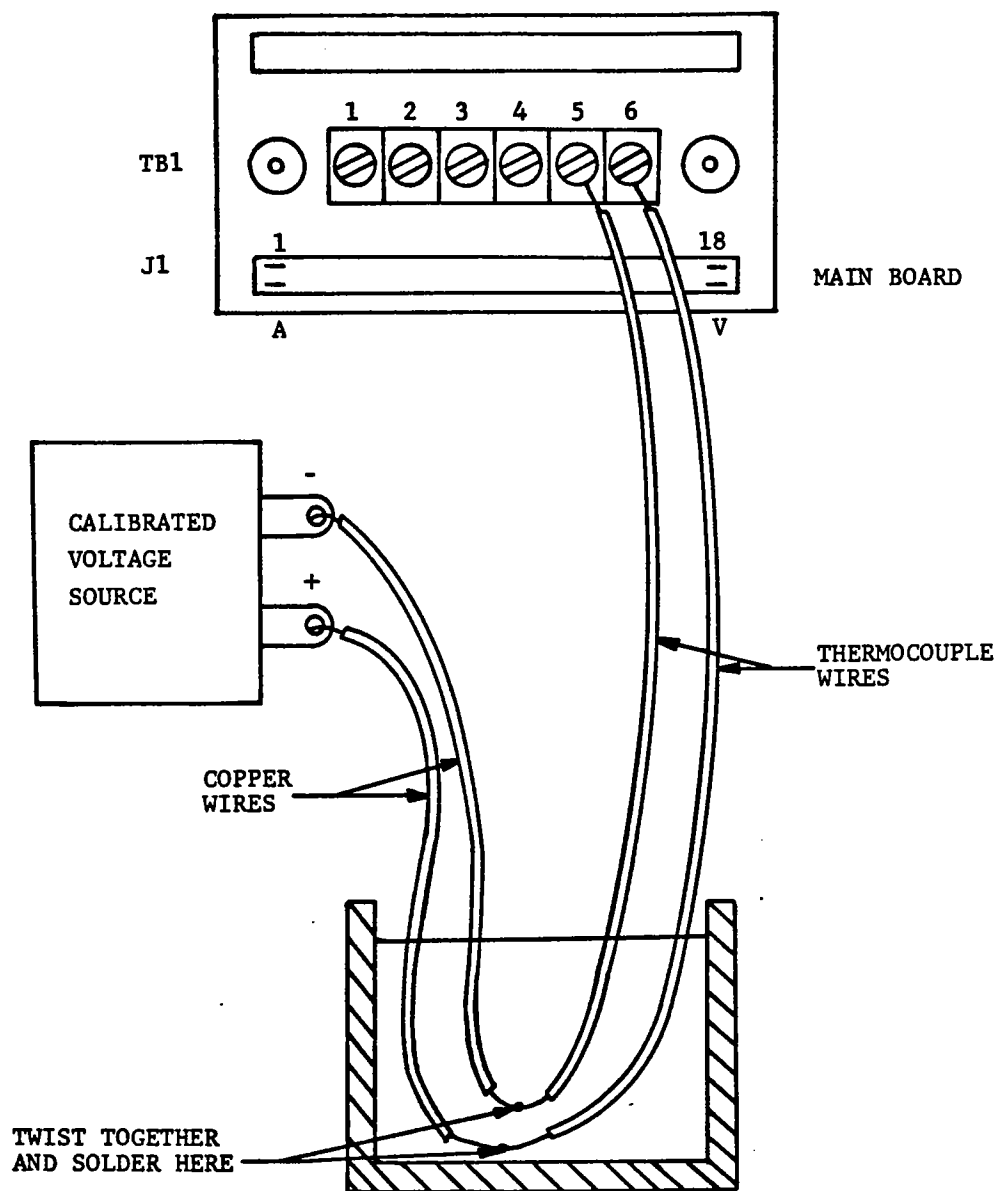

Figure 7-1 Ice Bath Calibration Setup
1. Connect test cables as shown in Figure 7-1.